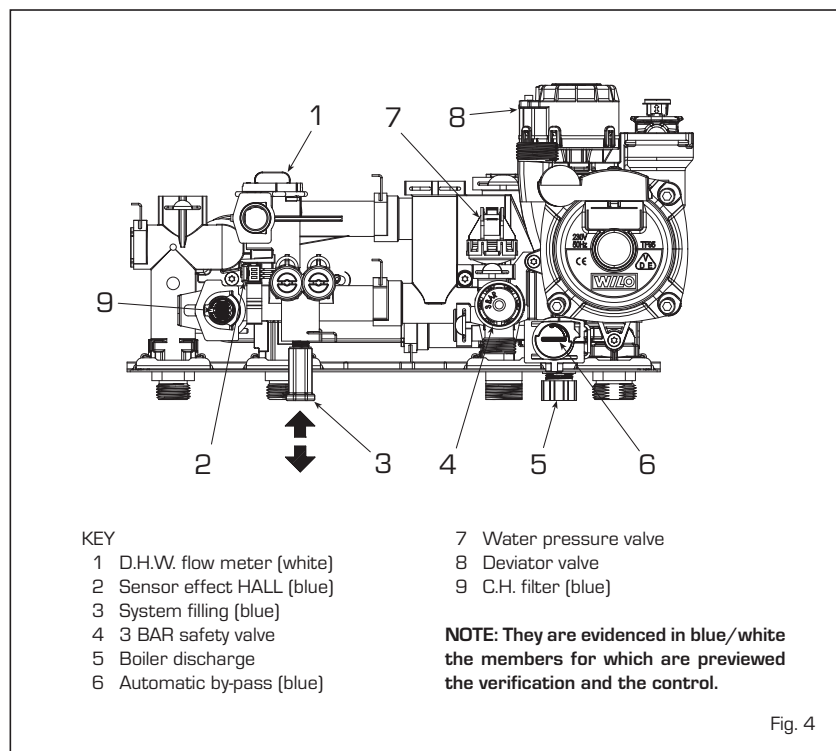

Fig. 4
2.5 SYSTEM FILLING (fig. 4)
Filling of the boiler and the system is done by the system filling (3 fig. 4).
2.5.1 Emptying the system (fig. 4)
Use the drain tap to empty the system (5 fig. 4). Turn off the boiler before doing this.